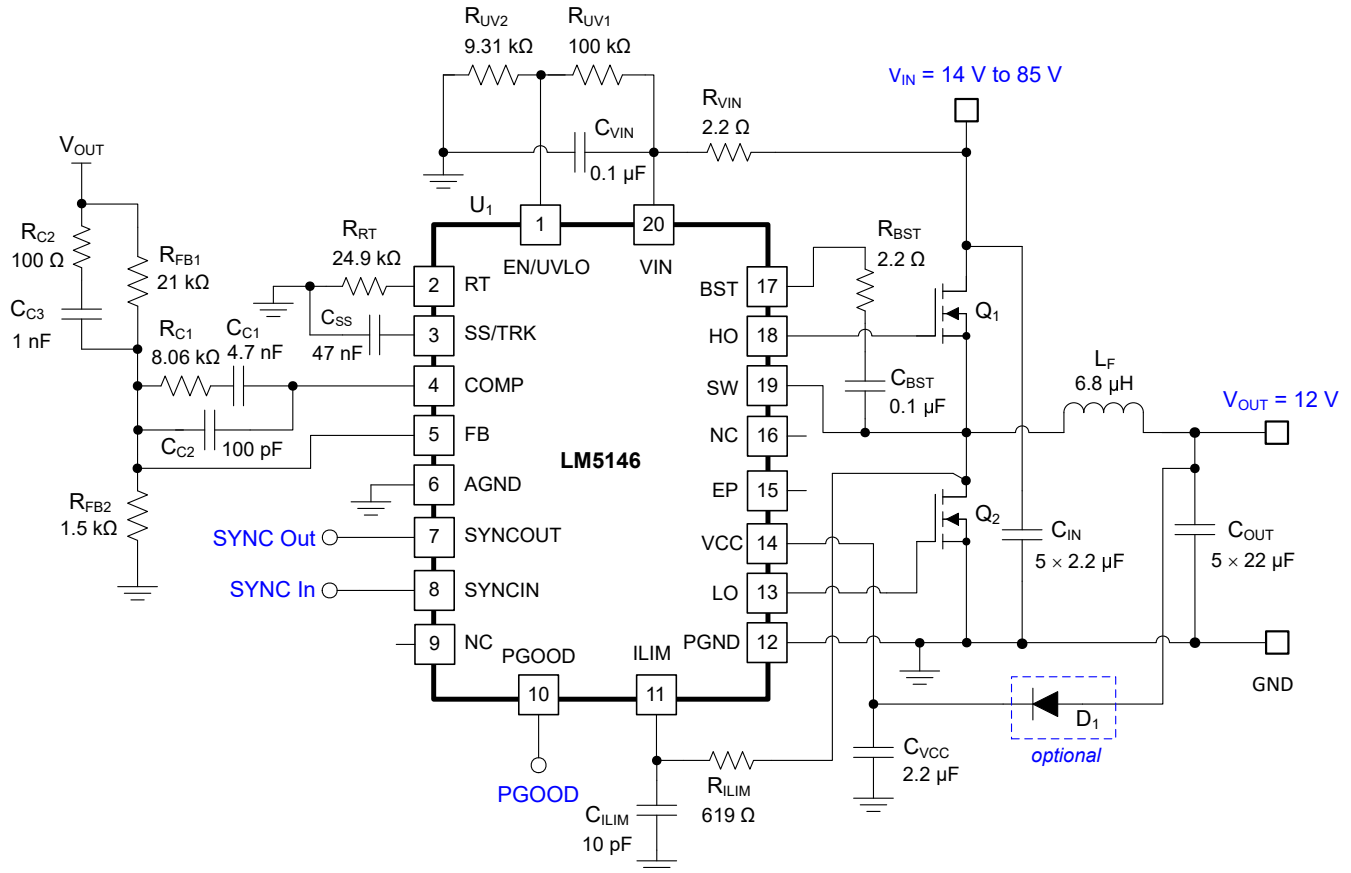

图 9-16. Application Circuit 2 With LM5146 48-V to 12-A Synchronous Buck Regulator at 400 kHz
图 9-16 shows the schematic diagram of a 400-kHz, 12-V output, 8-A synchronous buck regulator intended for 48-V telecom applications.
As shown in 图 9-16, a 2.2- $\Omega$  resistor in series with  $C_{BST}$  is used to slow the turn-on transition of the high-side MOSFET, reducing the spike amplitude and ringing of the SW node voltage and minimizing the possibility of  $C_{dv}/dt$ -induced shoot-through of the low-side MOSFET. If needed, place an RC snubber (for example, 2.2  $\Omega$  and 100 pF) close to the drain (SW node) and source (PGND) terminals of the low-side MOSFET to further attenuate any SW node voltage overshoot and/or ringing. Please refer to the application note Reduce Buck Converter EMI and Voltage Stress by Minimizing Inductive Parasitics for more detail.
3. Placing a 2- $\Omega$  to 10- $\Omega$  resistor in series with the boot capacitor, as shown in Figure 9-16, slows down the high-side MOSFET turn-on transition, serving to reduce the voltage ringing and peak amplitude at the SW node at the expense of increased MOSFET turnon power loss.